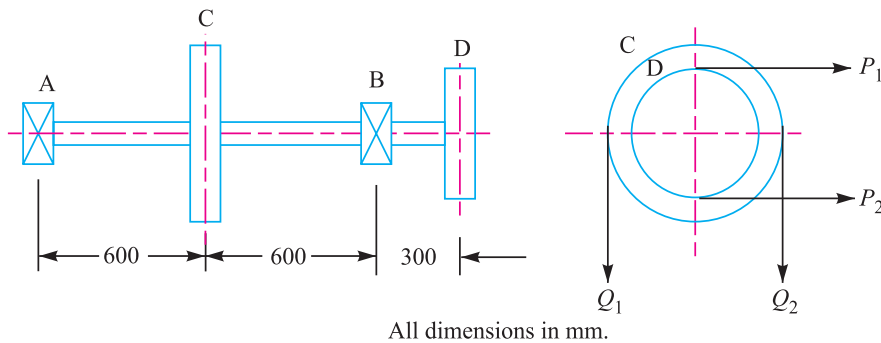

Fig. 14.18
12. A horizontal shaft *AD* supported in bearings at *A* and *B* and carrying pulleys at *C* and *D* is to transmit 75 kW at 500 r.p.m. from drive pulley *D* to off-take pulley *C*, as shown in Fig. 14.18.